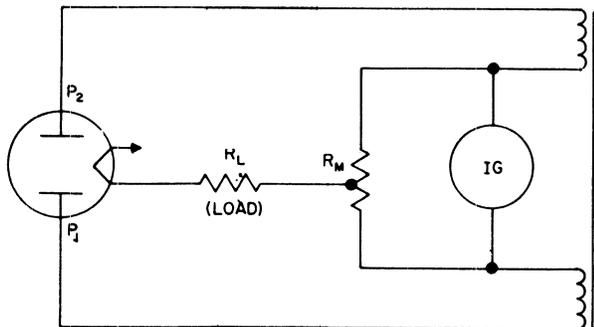

Figure 4-1. Rectifier Diagram Illustrating Theory
a. Figure 4-1 is a simple full-wave rectifier circuit. The inner ends of the two power transformer secondary windings are connected to a d-c milliammeter shunted by a center-tapped resistor R_m . Load resistor R_L is connected between the center tap of the transformer and the rectifier filament as in any usual full-wave rectifier circuit. When rectifier plate P_2 is positive, electron flow is through the upper half of R_m , and the meter tends to deflect in one direction. When plate P_1 is positive, electron flow is through the lower half of R_m , and the meter tends to deflect in the opposite direction. With the load resistance fixed and equal forces acting on the meter in both cases, the meter needle indicates zero. It cannot follow variations at the lower line frequency because of the inertia of the movement.